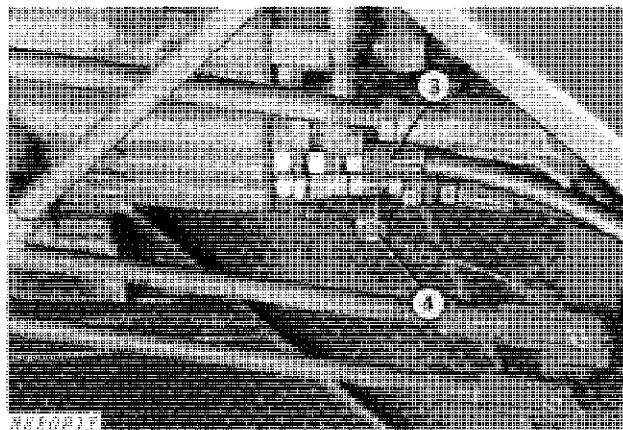

Fig. 23-Changing Valve Connections
3. Install hose on center outlet (Fig. 23).